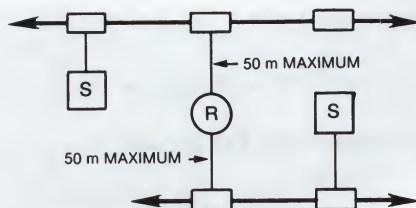

Figure A-10 ■ Local Repeater
- A local repeater (DEREP) amplifies the signal between two standard Ethernet coaxial cables by transmitting the signal over connecting transceiver cables (Figure A-10). Each transceiver cable can be 5 to 50 meters (16.5 to 165 feet) long.